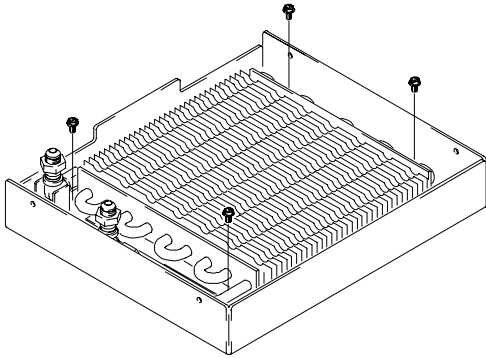

Fig. 20
7. Remove 4 screws securing cooler in frame bottom. Fig. 20.